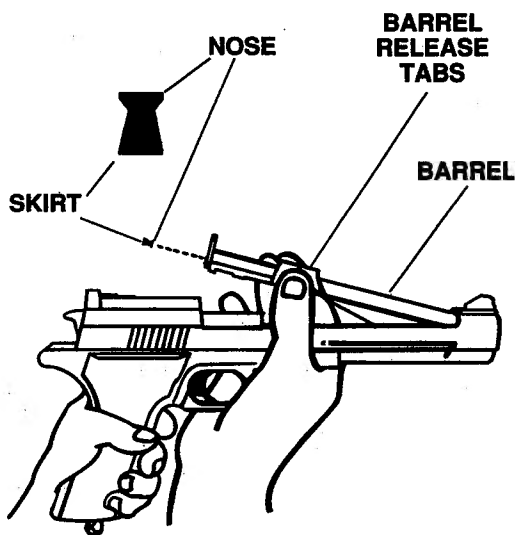

FIG. 6
- Open the barrel by squeezing the barrel release tabs until the barrel pops open as shown in Fig. 6. DO NOT PULL THE BARREL UPWARD BEYOND THIS POINT. This could damage your airgun.
- Insert a .177 pellet, nose first, into the barrel. (Fig. 6) To avoid jams, make sure the pellet skirt is flush with the back of the barrel.